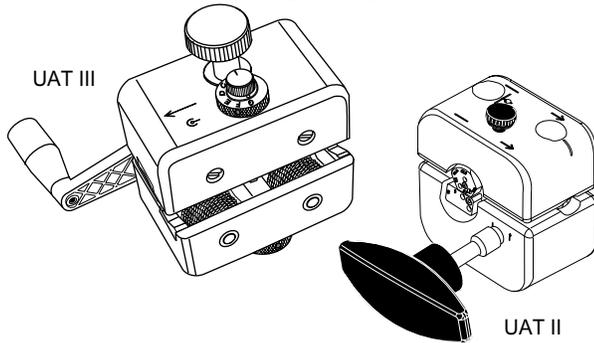

Figure 38
7.18 Corning Cable Systems Universal Access Tool II and III are designed to access the fibers of single-tube cables in a mid-span location where slack is present (see Figure 38).